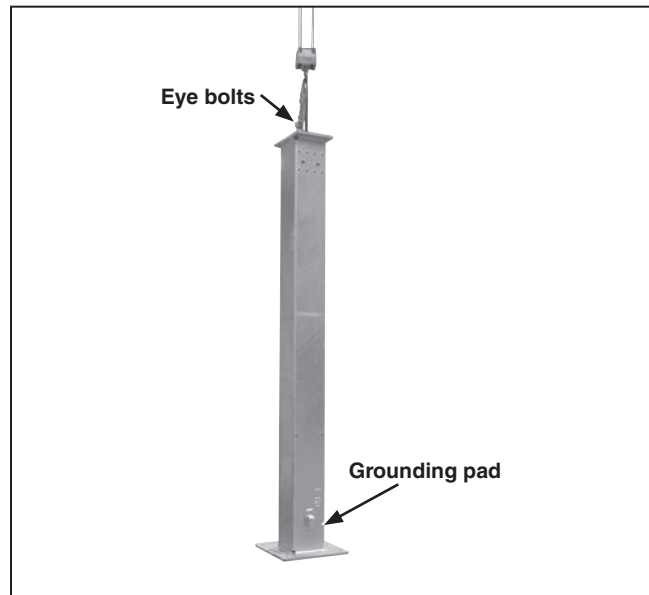

Figure 4. Lifting the pedestal into position.
- STEP 2.** Install the temporary eyebolts into the holes provided at the top of the mounting pedestal. Attach the lifting slings to the eyebolts. Figure 4.
- STEP 3.** Lift the pedestal over the anchor bolts. Before lowering, make sure the grounding pad is positioned properly for the installation. Refer to the accompanying catalog drawing for details. Figure 4.